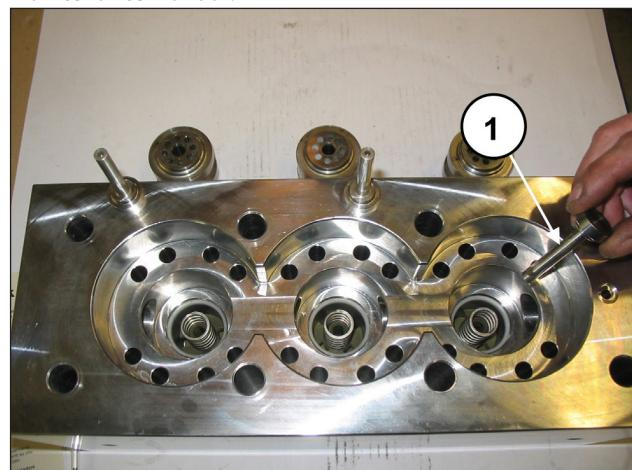
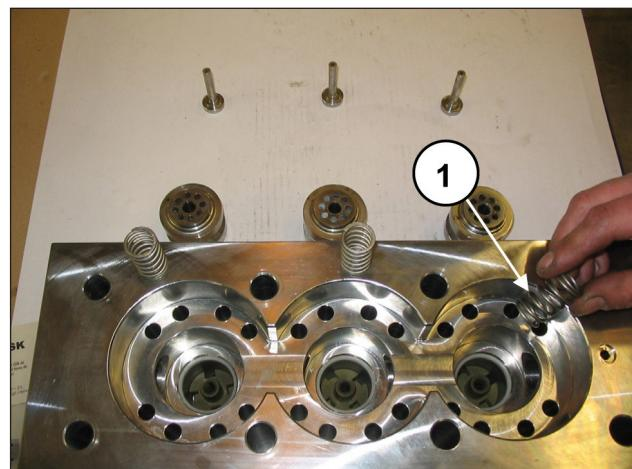
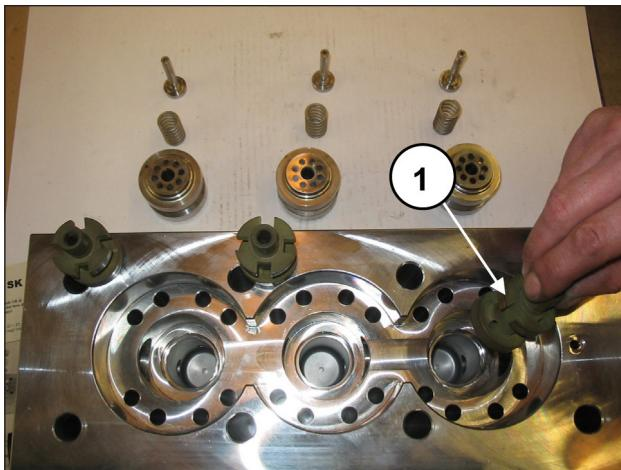

Fig. 104
Fig. 105
Fig. 106
Extract the outlet plates (pos. ①, Fig. 104), and their respective guides (pos. ①, Fig. 106), with their springs (pos. ①, Fig. 105). Check their conditions, replace if necessary and at the intervals necessary as indicated in chapter 11 in the **Use and maintenance manual**.